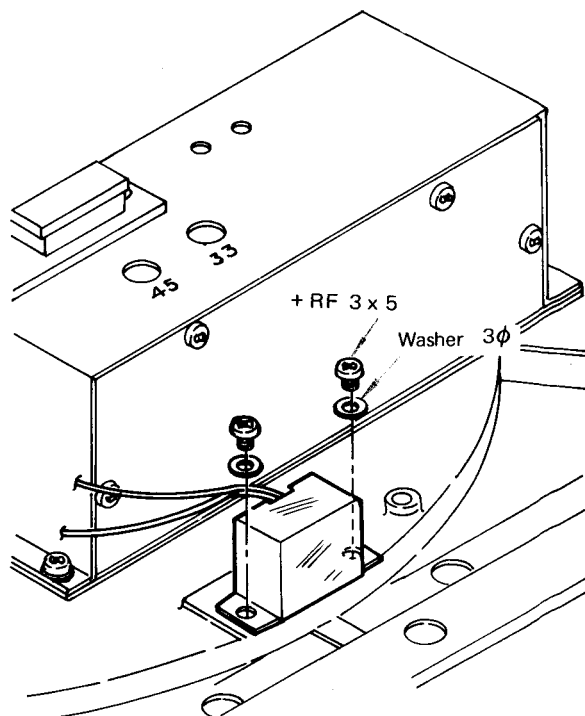

Fig. 2-10 Strobe lamp removal
1. Remove the two screws (+RF 3×5) securing the plastic strobe lamp cover as shown in Fig. 2-10.